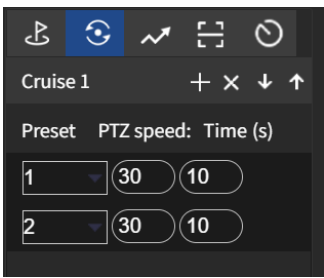

Figure 2-11 Adding Presets
- 3. Click  to enter the adding interface of preset, as shown in Figure 2-11.